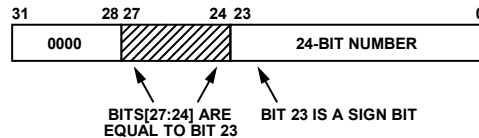

Figure 51. ZPSE Communication Format
The ADE7816 includes 8-, 16-, and 32-bit, signed and unsigned registers. All signed registers are in twos complement format. Some of the internal measurements are 24 bits long and have been extended to 32 bits prior to communication. This extension is accomplished in three different ways: sign extending (SE), zero padding (ZP), or zero padded and sign extended (ZPSE). When sign extending is used, the sign bit (Bit 23) of the twos complement signed number is duplicated in the uppermost byte prior to communication. Zero padding is achieved by writing 0s into the upper most byte prior to transmission. This format is used for unsigned numbers only. ZSPE formats are shown in Figure 51 and involve padding the most significant bits with 0s and sign extending Bits[27:24].